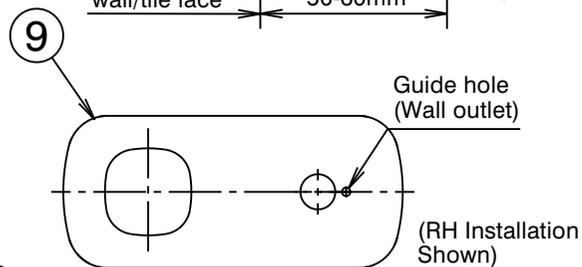

Fig. 4
- 5) Install the wall outlet (12) onto the spigot of adaptor (17), ensuring grub screw (12a) is engaged with guide hole in cover plate (5) (Fig.4), then push it firmly against the cover plate (5) while tightening grub screws (13) using the 2mm allen key (14).
- 6) Fit handle (1) taking care that it is pushed fully onto cartridge stem, then tighten grub screw (2) using the 2.5mm allen key (3). Fit plug (4), taking care not to damage the decorative finish.